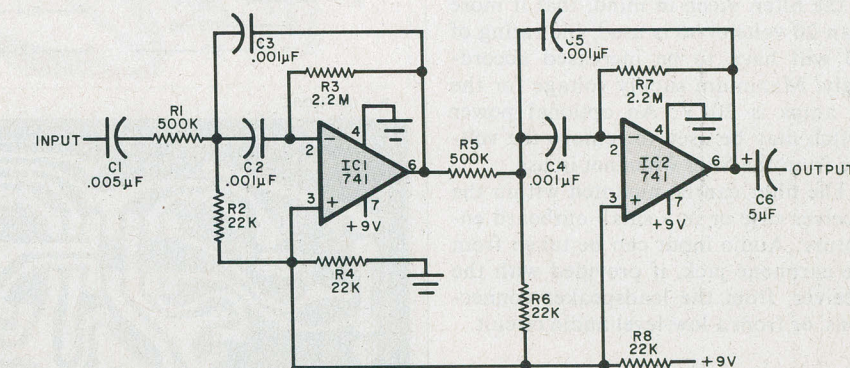

Fig. 1. Circuit for the Code Filter consists of cascaded pair of active stages formed by op amps IC1 and IC2.
**Circuit Operation.** The circuit, shown in Fig. 1 consists of a cascaded pair of active stages formed by op amps IC1 and IC2. With the component values shown, the bandpass peaks at about